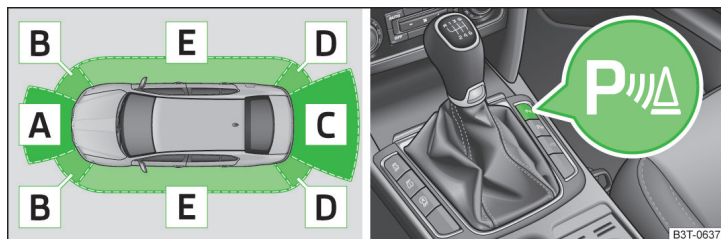

Fig. 147 Range of sensors / system button
- If a warning signal sounds for about 3 seconds after activating the system and there is no obstacle close to your car, this indicates a system fault. The fault is also indicated by the symbol  flashing in the button » Fig. 147 on page 154. Seek help from a specialist garage.
Area » Fig. 147	Range of sensors
On vehicles equipped with a factory-fitted towing device, only system areas **A** and **B** » Fig. 147 are active when towing a trailer.
The system is automatically activated by selecting **reverse gear** or pressing the symbol button **P** » Fig. 147 on page 154. The symbol **P** lights up in the button; activation is confirmed by a brief acoustic signal.